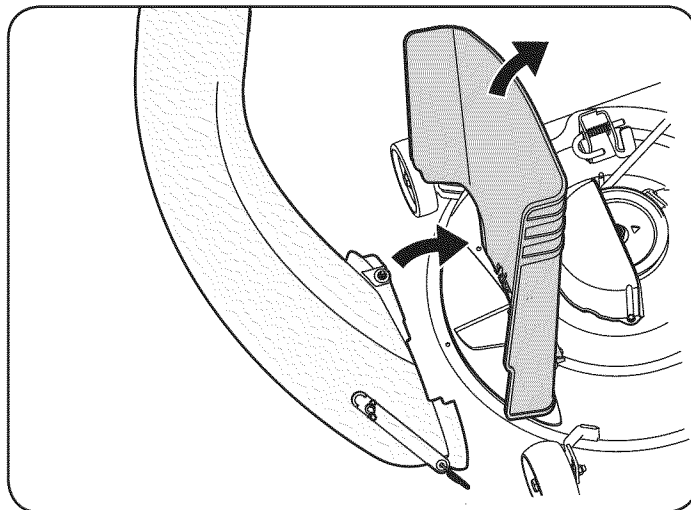
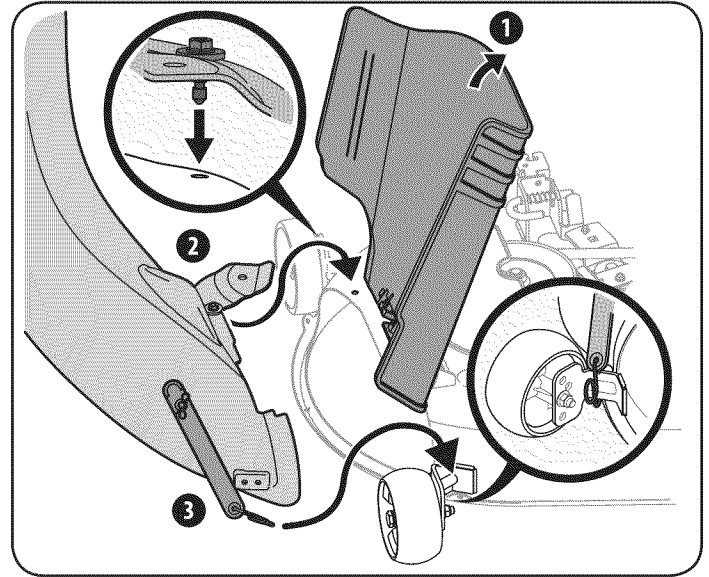

Figure 19
Figure 20
3. With the tractor's discharge chute raised up and held open, install the chute elbow over the chute opening by placing the deck mounting pin in the hole provided, as seen in Figure 19, then secure the elbow to the deck by hooking the retainer strap torsion spring hook over the deck wheel mounting bracket as seen in Figure 20.